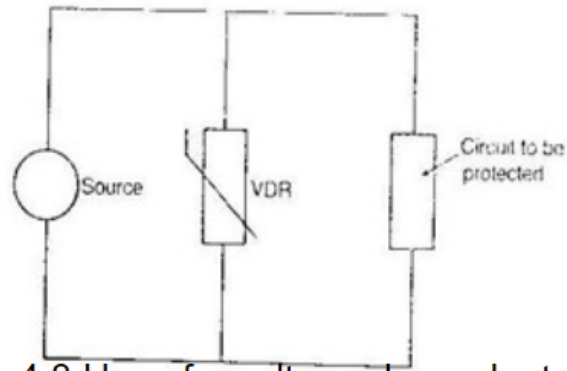

Fig.4.8 Use of a voltage-dependent
- ❖ Fig.4.8 Use of a voltage-dependent resistor to protect a circuit against transients